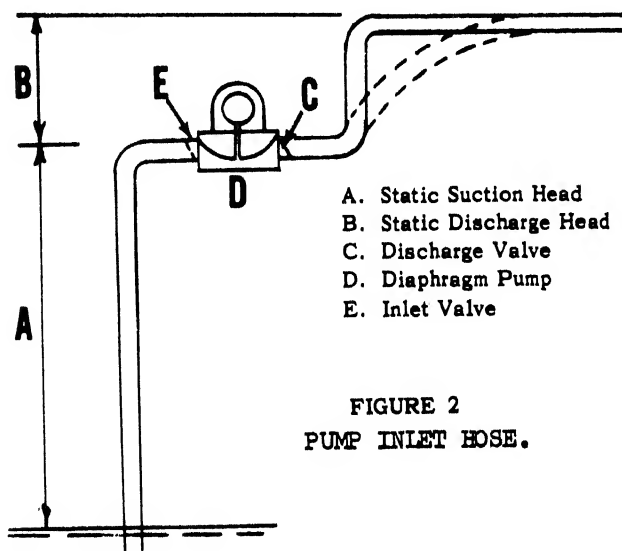

FIGURE 2
7. Selection and preparation of pump site — The pump inlet should not be located higher than 25 feet above the source of liquid to be pumped. (Fig. 2)
The pump is capable of pumping against a total dynamic head of 35' which is a combination of (A) and (B) in Fig. 2, but the Static Suction Head is not to exceed 25' (measured vertically) above the inlet valve from water level. This would leave a 10' Static Discharge Head (measured vertically). These figures are based on using a suction line of same nominal inside diameter as pump inlet (4"), and one elbow and are calculated at sea level atmospheric conditions.
Both the suction and check valves should close with a distinct slap. A change to a very loud snap indicates excessively high suction and/or discharge. Make sure that the installation does not exceed the maximums. (Reference, Chapter II, Par. 7 and Fig. 2.)